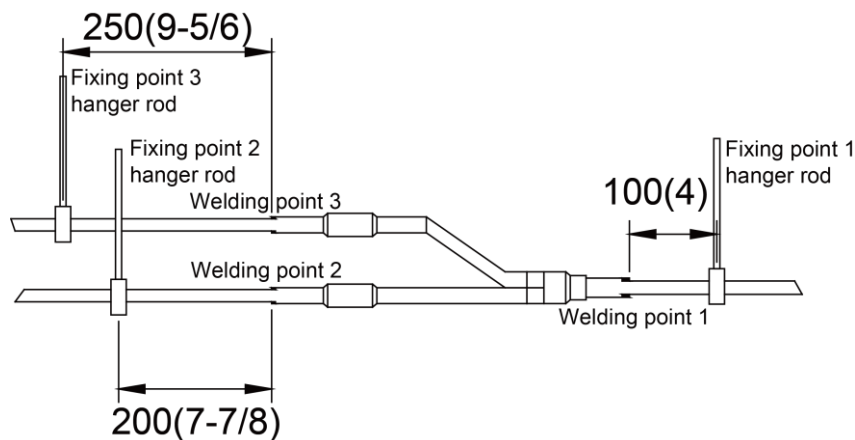

Fig.34
- (3) There must be three fixing point for both horizontal and vertical installation of the Y-type manifold. See Fig.34.